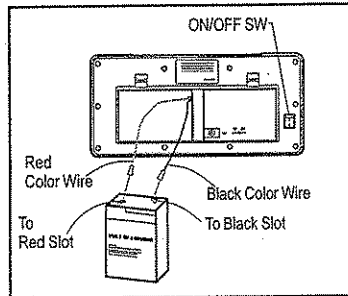

Figure 2-1
- I** Refer figure 2-1 connect the rechargeable battery